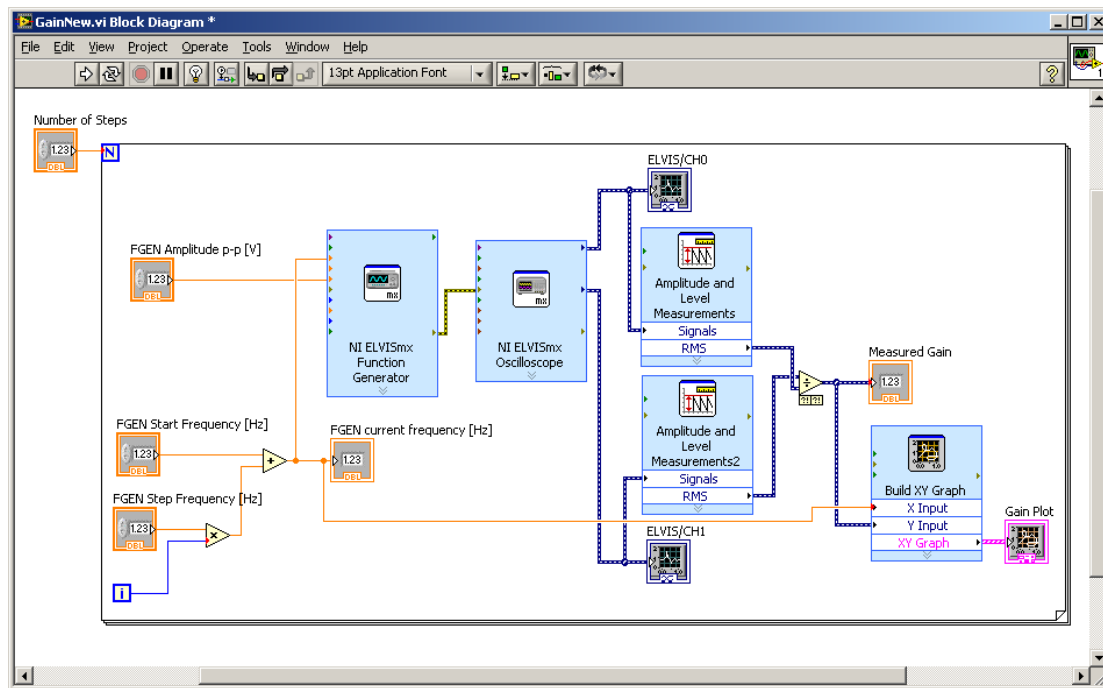

Figure 8-2
- Re-arrange the blocks as necessary and wire them together as shown in Figure 8-2.